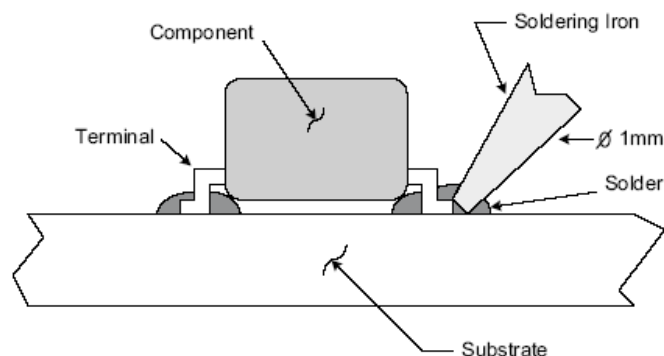

Fig. 11 Rework by Soldering Iron
2. The bit must not touch the component body. Contact should only be with the component leads or the land pads on the printed circuit board (Figure 11).